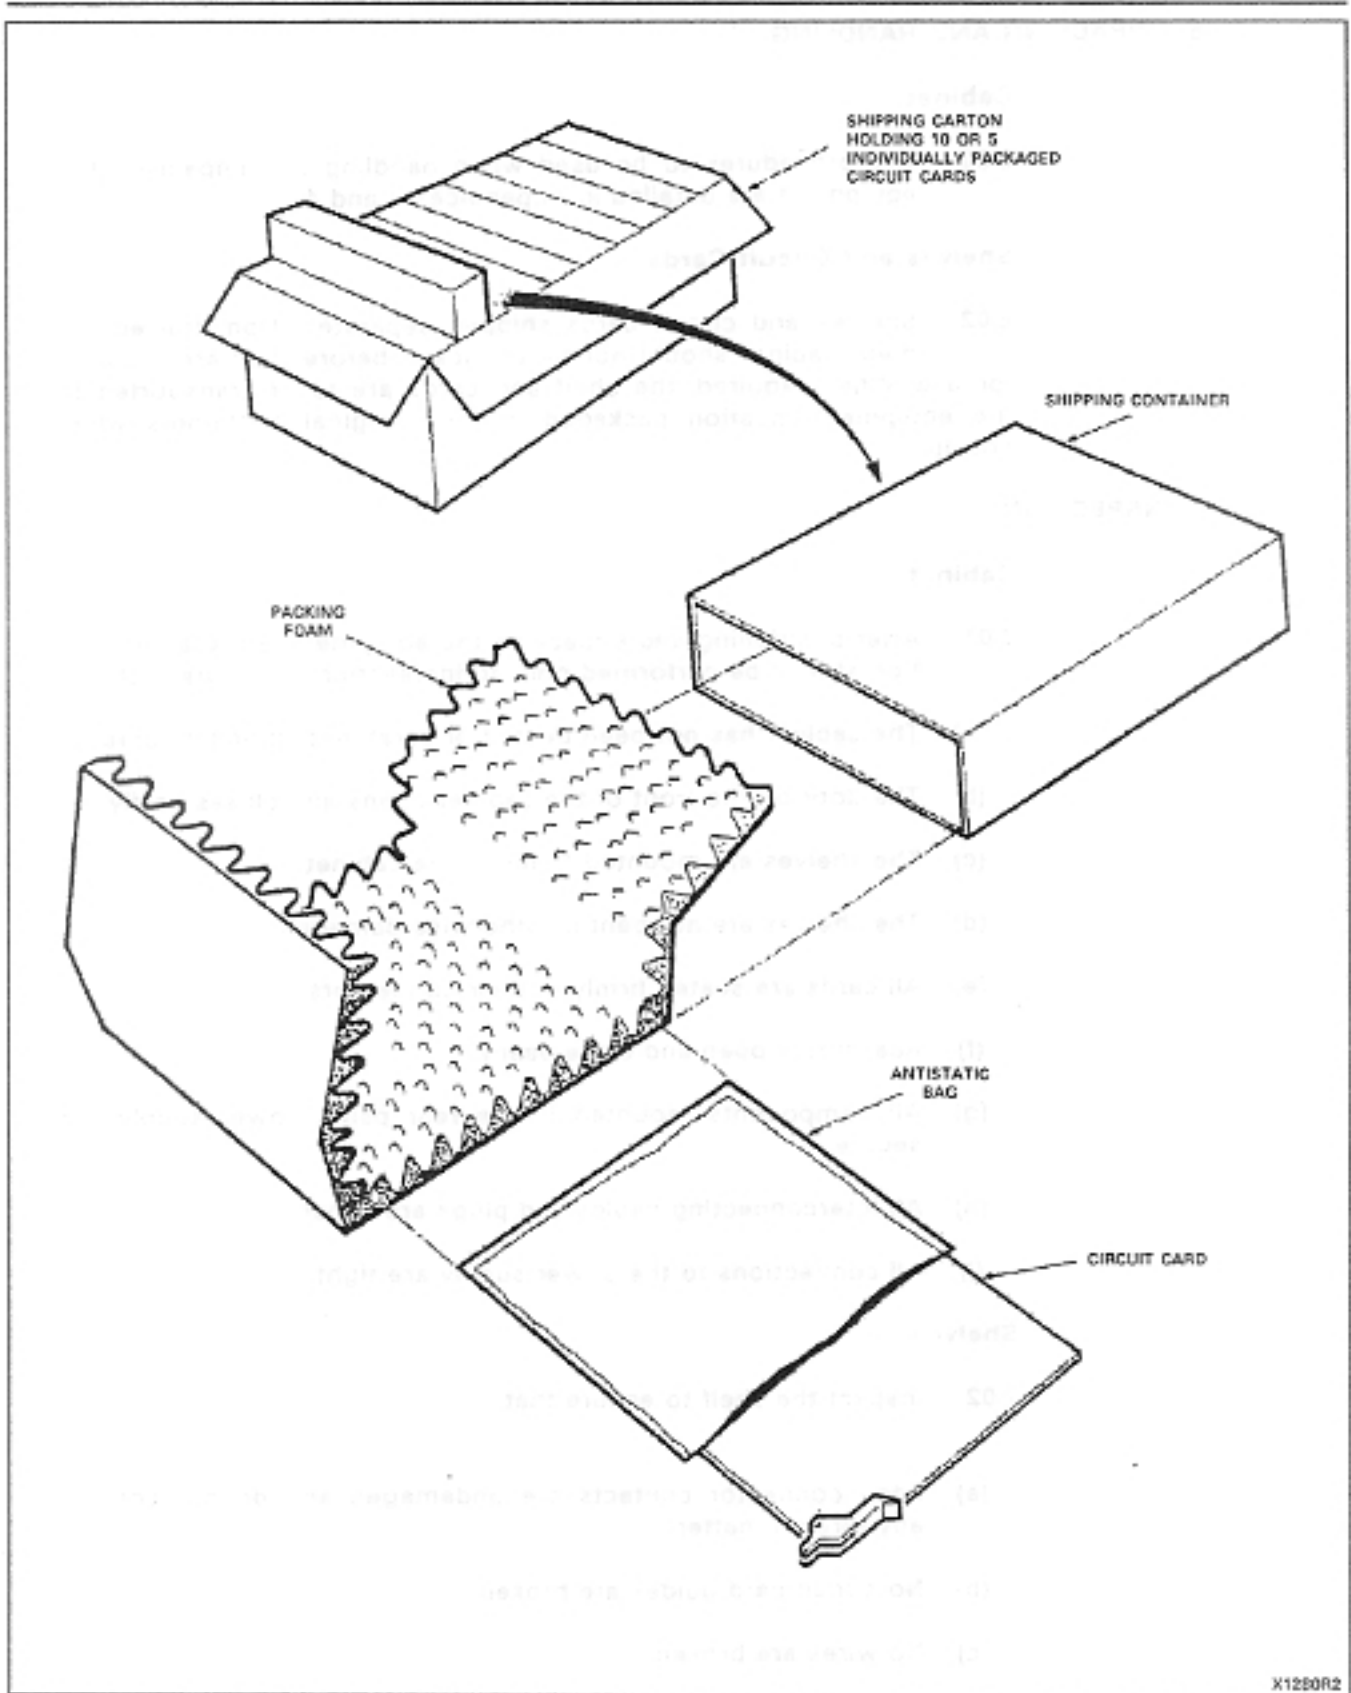

Figure 4-5 Circuit Card Packaging
4.05 All printed circuit cards, if shipped separately, are packaged as shown in Figure 4-5. If a larger number of circuit cards are to be shipped, they are individually packed and shipped in groups of ten per carton.